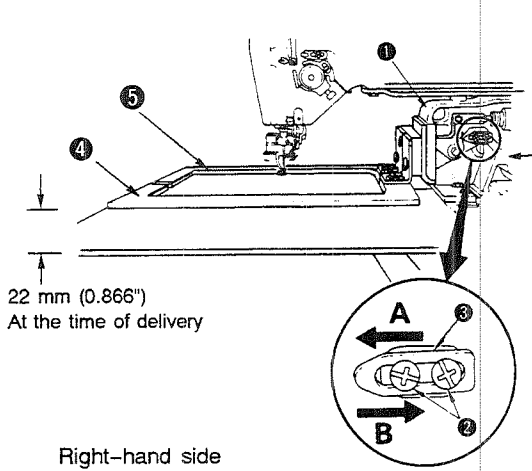
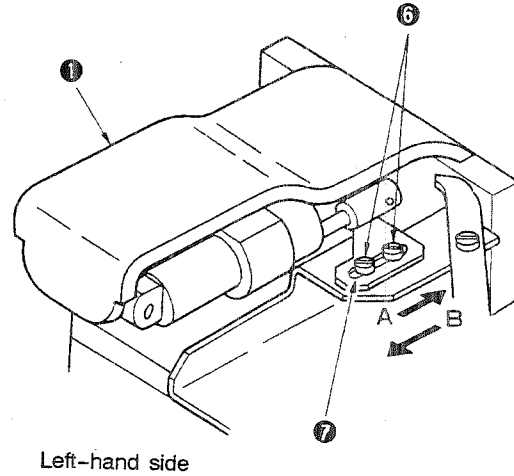

Fig. 4-1-1
Fig. 4-1-2
<ol style="list-style-type: none"> 1) Loosen screws ② in work clamp stopper (right) ③ which is located in the right-hand side of feed bracket ①. Shifting work clamp stopper (right) ③ to the side of arrow A will lower the height of feeding frame (right) ④ or to the side of arrow B will increase it. (Fig. 4-1-1) 2) After the adjustment of the height of the feeding frame (right), be sure to securely tighten screws ②. (Fig. 4-1-1) 3) Loosen screws ⑥ in work clamp stopper (left) ⑦ which is located in the left-hand side of feed bracket ①. Shifting work clamp stopper (left) ⑦ to the side of arrow A will lower the height of feeding frame (left) ⑤ shown in Fig. 4-1-1 or to the side of arrow B will increase it. (Fig. 4-1-2) 4) After the adjustment of the height of the feeding frame (left), be sure to securely tighten screws ⑥. (Fig. 4-1-2) 	<ul style="list-style-type: none"> ○ If the lifting amount of the feeding frames (right) and (left) is insufficient, the material may fail to be placed on the machine with ease. ○ If the lifting amount of the feeding frames (right) and (left) is excessive, the material cannot be positioned with accuracy when setting it on the machine.